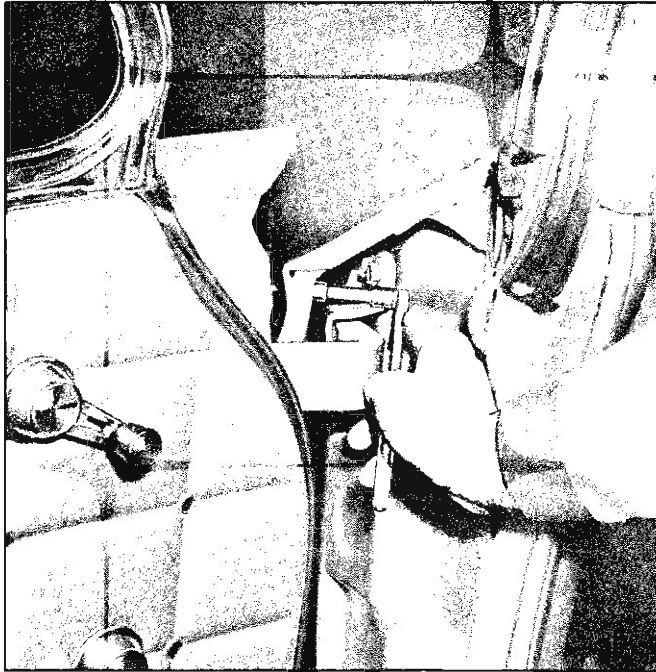

Fig. 108—Removing Molding Rear Nut
1. Open front door and remove rearmost trim retaining nut as shown in Figure 108.